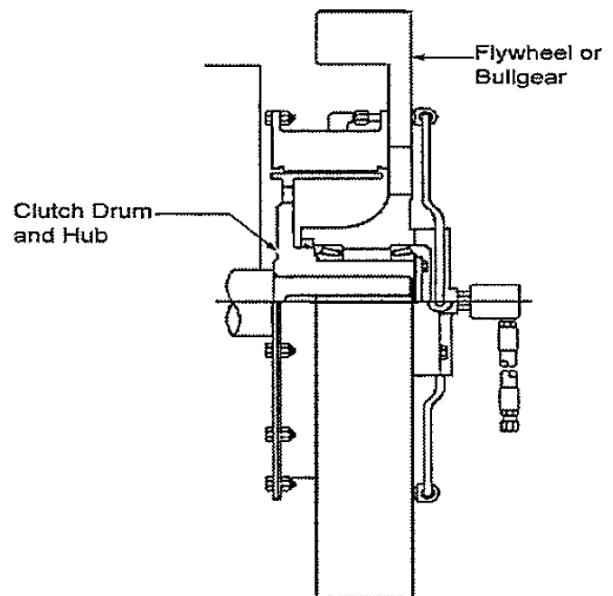

Figure 8
- 2.1.6 **Figure 8** illustrates a VC clutch mounting for punch press applications. The drum and drum hub are attached to the crankshaft or backshaft and the element is attached to a bearing-supported flywheel or bullgear. VC clutches on punch presses are typically used in combination with Airflex type CTE and DBA brakes.